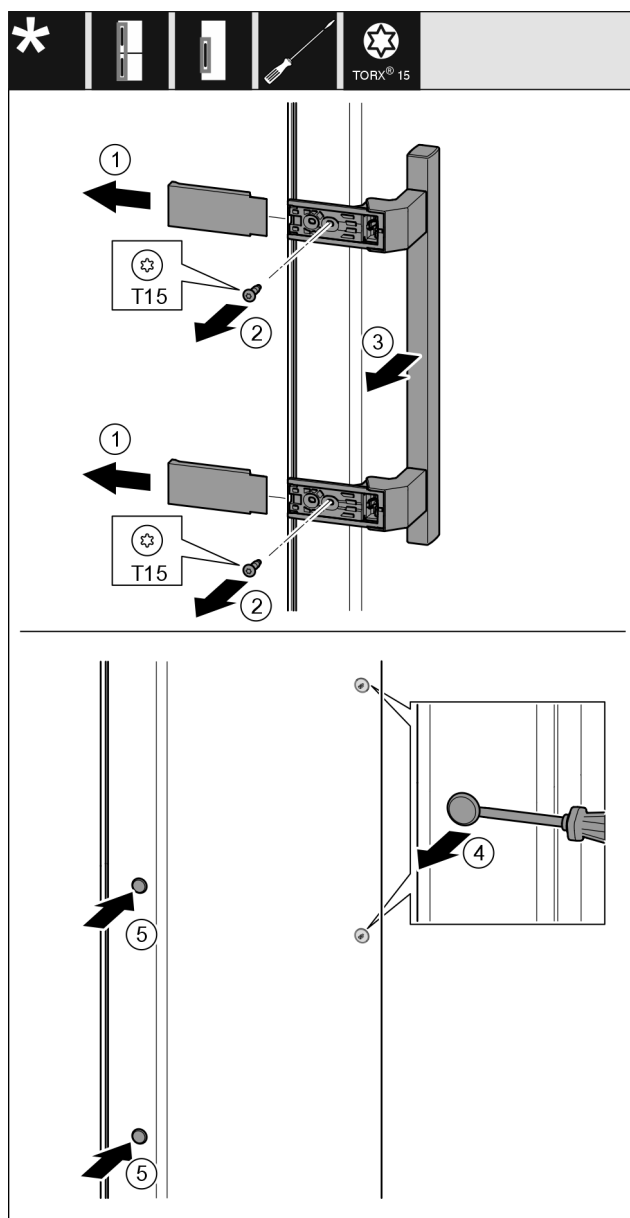

Fig. 19
- Pull off the cover Fig. 19 (1).
- Turn out the screws Fig. 19 (2) with the screw driver.
- Remove the handle Fig. 19 (3).
- Carefully lift the side plug Fig. 19 (4) with a slotted screwdriver and pull it out.
- Reinsert the plug Fig. 19 (5) on the other side.